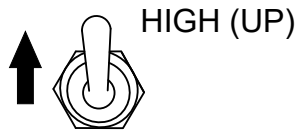

Figure 34. Engine Speed Switch (HIGH)
9. Place the **Engine Speed** switch in the **HIGH** position (Figure 34).